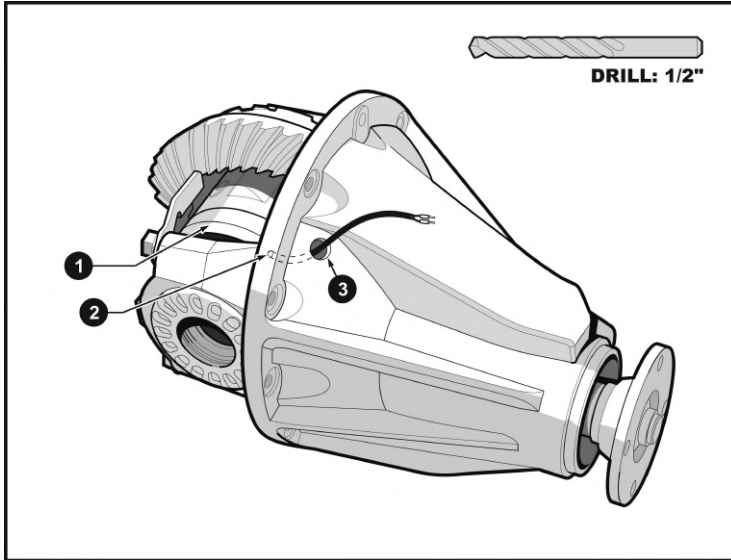

Fig. 24 : (1) - magnet; (2) - location of the cable exit from the magnet; (3) - hole in the carrier
To install the Electric Locker, a hole must be drilled in the differential housing. To determine the drilling location, perform a trial fit of the Electric Locker. At this stage, there is no need to tighten the bolts to the specified torque or adjust the bearing preload, as the assembly is performed solely to determine the magnet position and the cable exit point relative to the differential housing walls (Fig. 24). Using the illustration as a reference, determine the location of the future hole. To ensure proper cable routing, follow the steps below:
3.3 Figure 24 shows the recommended hole location (3) in the differential housing. Using the figure as a reference, mark the drilling point with a marker or a center punch. Ensure that the hole (3) is located on the magnet (1) side, adjacent to the cable exit point (2) on the magnet.
NOTE: If the differential housing of your vehicle differs from the differential housing shown in **(Fig. 24)**, determine the location of the hole yourself. Perform a trial fit of the Electric Locker as described in **Steps 3.1** and **3.2**. Then, mark the location of the future hole on the differential housing surface, adhering to the following requirements:
- *The hole must be located on the magnet side (1). (Fig. 24).*
- *The hole must be positioned adjacent to the cable exit point on the magnet (2) (Fig. 24).*